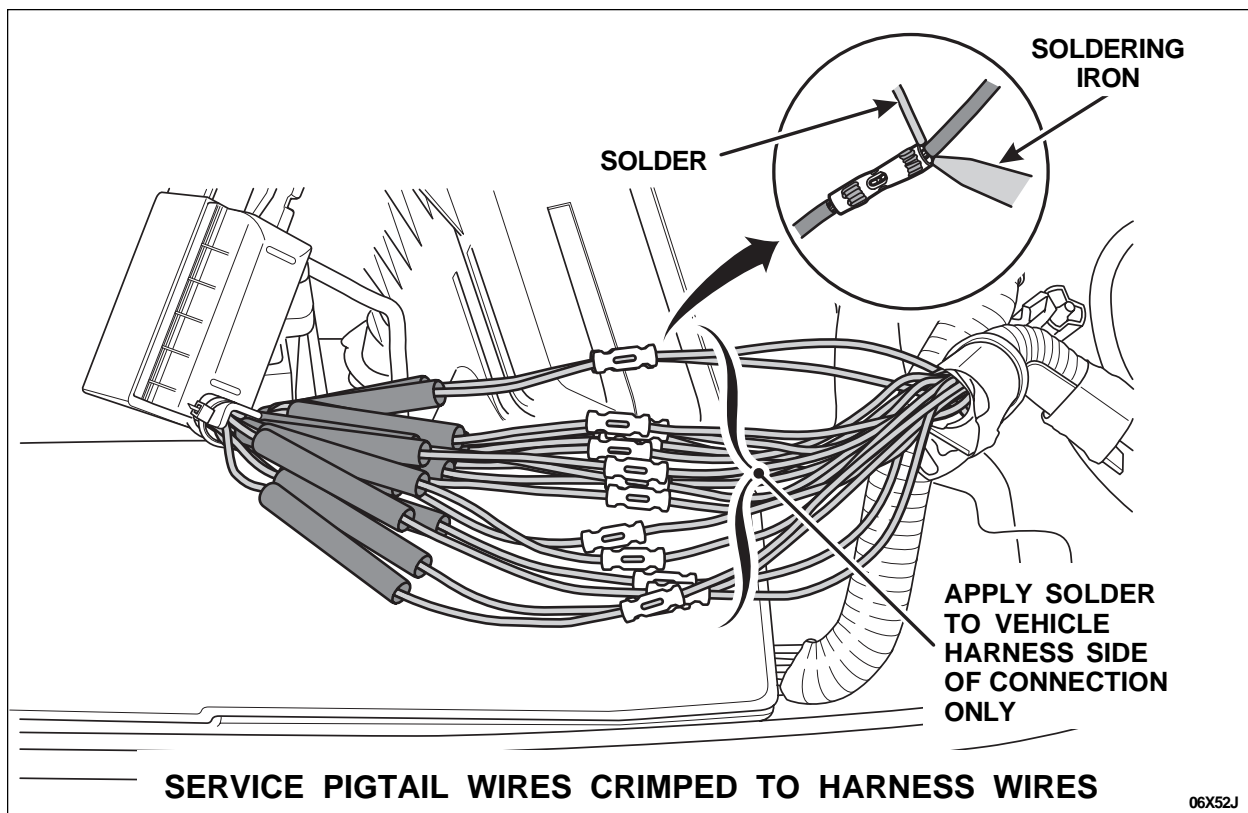

FIGURE 10
4. Working with one wire at a time, match the wires from the service pigtail to the vehicle harness. Insert the stripped end of each wire into the splice connector and crimp using the crimp tool provided in the Rotunda Wire Splice Tool Kit 164-R5903. See Figure 10.